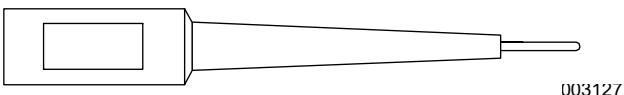

Figure 2-7. Narrow Test Probe
- Meter test leads capable of measuring voltage inside a connector without damaging the socket. A set of black and red test leads (P/N 0J09460SRV) for this application are available. See **Figure 2-7**.